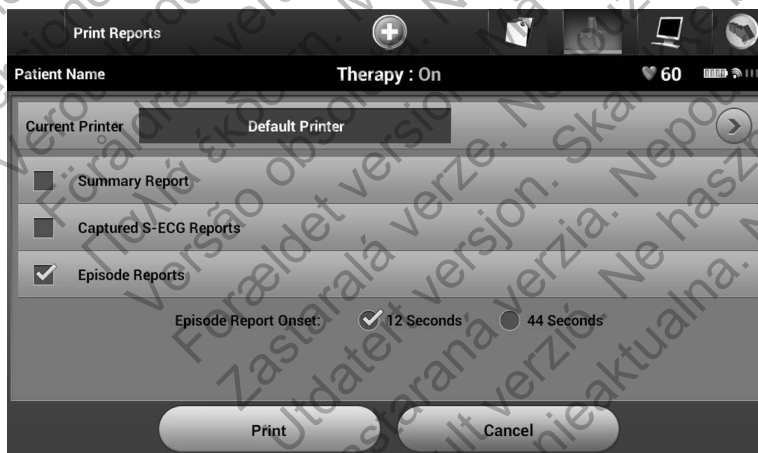

Figure 41: Print Reports screen
3. Select Continue to return to the Print Reports screen (Figure 41). Either 12 seconds or 44 seconds of pre-episode S-ECG data may be selected using the radio buttons below the Episode Reports row. The default value for Episode Report Onset is 12 seconds.